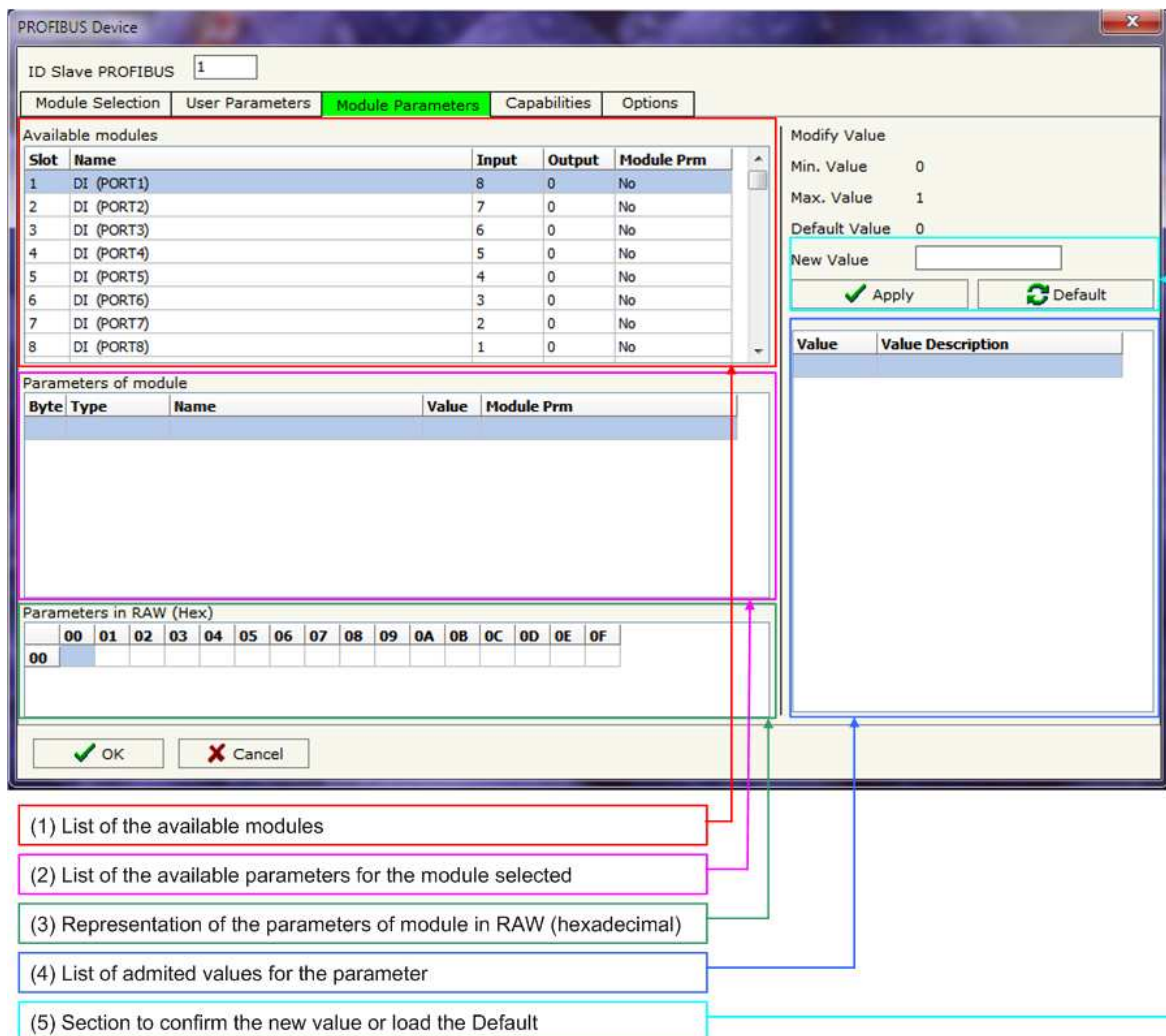

Figure 11: "PROFIBUS Device – Module Parameters" window
The section "Module Parameters" is used to modify the parameters of the Modules (Fig. 11).
- The List of all Module selected in the GSD file ("Available modules") (Fig. 11, point (1));
- The List of all Parameters available for the Module selected ("Parameters of module") (Fig. 11, point (2));
- The Configuration of all parameters in RAW for the Module selected ("Parameters in RAW (Hex)") (Fig. 11, point(3));
- The admitted value for the selected parameter. It is possible to select the value desired and confirm it with the "Apply" button. If no value appears in this table, the "Min Value" and "Max Value" are the limit of the parameter. (Fig. 11, point(4));
- The "Apply" button is used to confirm the new value of the parameter, the "Default" button is used to load the factory value for the parameter. In "New Value" edit box it is possible to set the new value. (Fig. 11, point(5));